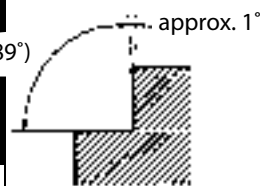

Fig. 2
- MEF type's side edge is designed to have a slight clearance for the countersinking. Therefore, worked side wall is approx. 1° inclined against the vertical face. (Fig. 2)